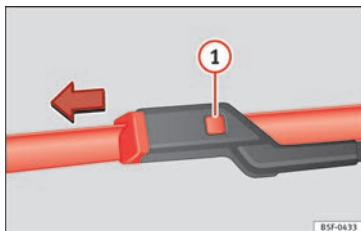

Fig. 82 Changing the windscreen wiper blades
- Press and hold release button » **Fig. 82 ❶** and pull gently on the wiper blade in the direction of the arrow.